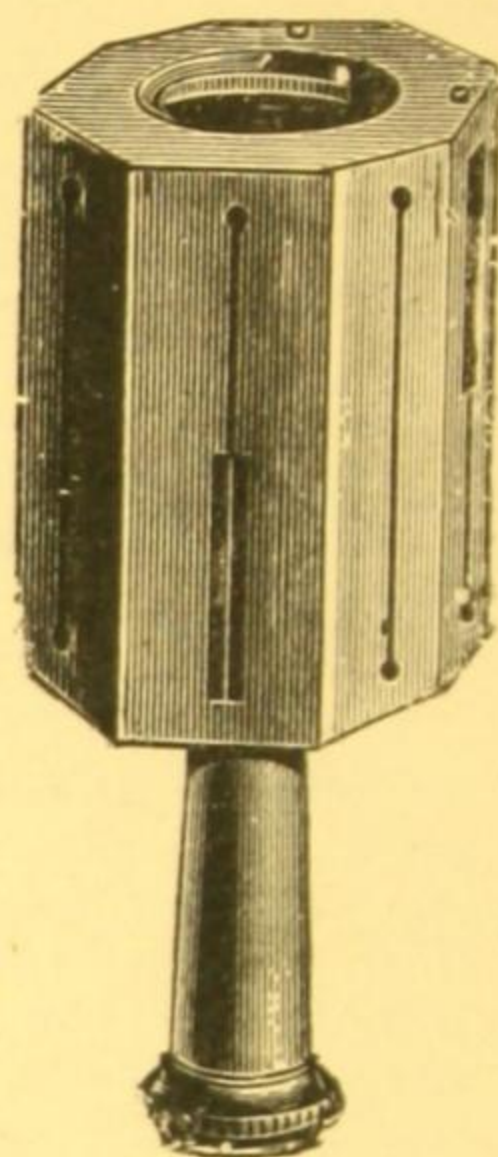

Fig. 108.
- SM 376.—**Cross Staff Head**, octagonal pattern, 2½ inches diameter, for setting out angles of 45° and 90°. Socket for attaching to a wooden staff. Fig. 108   12 6